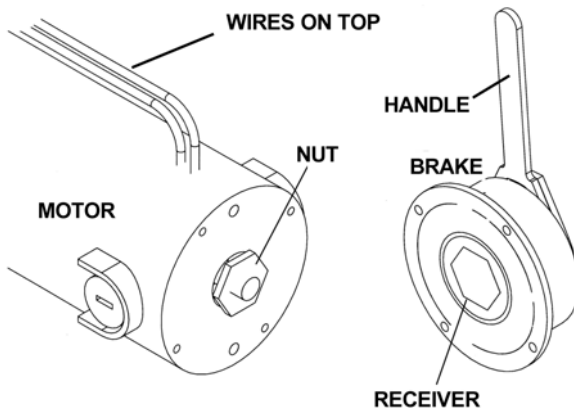

FIG. 3
2. Align the new brake receiver with the nut on the motor. The handle must be pointing in the same direction as the motor wires. See figure 3.